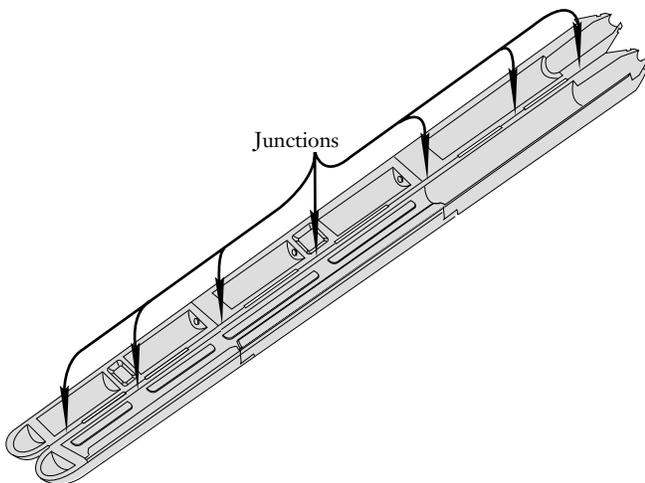

Figure 17
6.1 Before reusing the grip, check to make sure that all section components are securely connected at each junction (Figure 17). *Do not reuse a grip if these hinges are torn.*